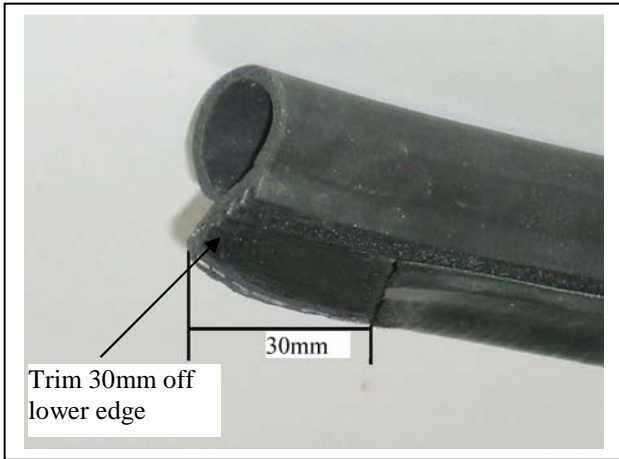
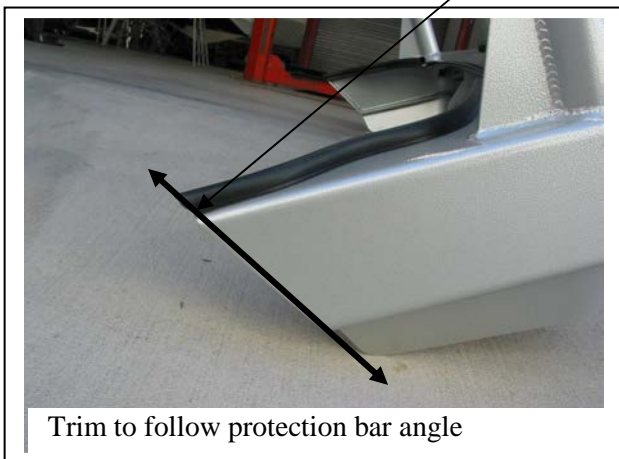

Figure 5
Figure 7
13. Attach infill trim (supplied) to top of ECB protection bar. **NOTE:** Trim 30mm off lower edge so trim will sit over end of protection bar. **See figures 5 and 6. Trim excess off end to follow protection bar. See figure 7.** **NOTE:** Seal any exposed edges of trim with silicone or similar to avoid corrosion of inner steel.